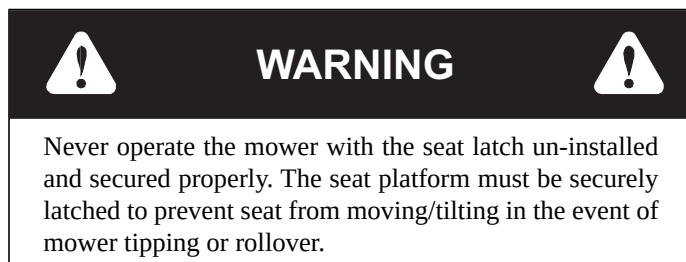

Figure 4-6
4. Loosen the steering damper's rear ball stud. Figure 4-6
7. Tighten the nut on the steering damper's rear ball stud. Figure 4-6